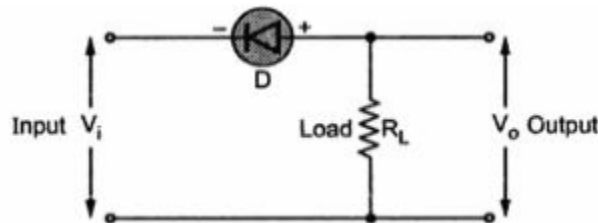

Fig. 1.47 Positive series clipper
- The Fig. 1.47 shows positive series clipper circuit in which diode direction is opposite to that in negative series clipper circuit.